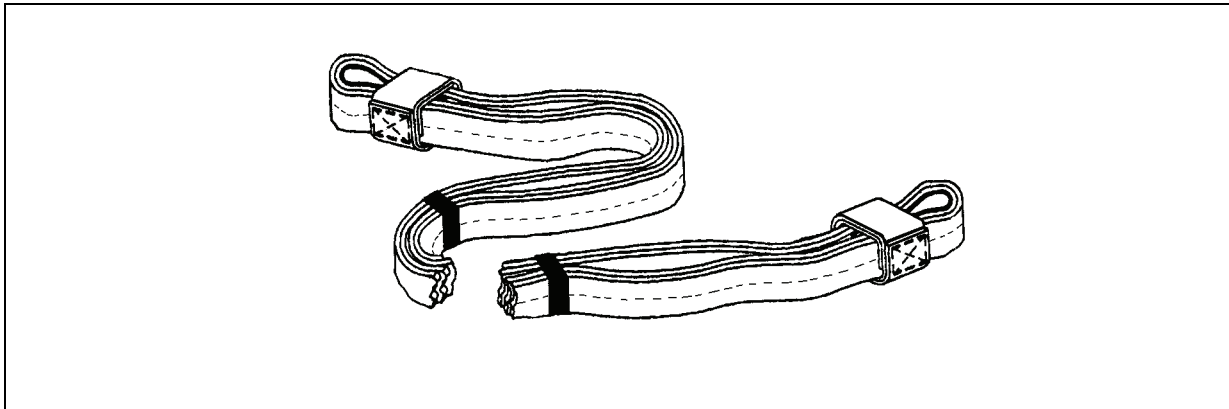

Figure 6-35. Two-Loop , Type XXVI Multi-loop Line
- **Type XXVI Nylon Multi-Loop Lines.** The Type XXVI nylon multi-loop lines are available in 3-, 9-, 11-, 12-, 16-, and 20-foot lengths (Figure 6-35). Each multi-loop line is constructed of two or four concentric loops. See appendix B, page B-1, for NSN information. The two-loop Type XXVI nylon multi-loop line's maximum rated capacity is 5,600 pounds when rigging a sling load. The maximum capacities for a four-loop multi-loop line is 11,200 pounds. A colored thread stitched lengthwise along the middle of the strap identifies the sling as a Type XXVI nylon multi-loop line.